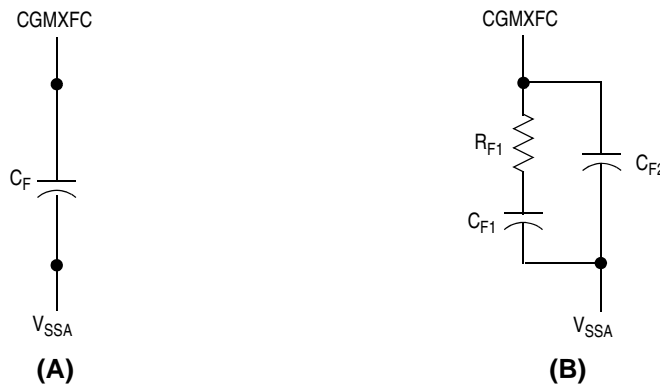

Figure 4-10. PLL Filter
Figure 4-10 shows two types of filter circuits. In low-cost applications, where stability and reaction time of the PLL are not critical, the three component filter network of Figure 4-10 (B) can be replaced by a single capacitor, C_F , shown in Figure 4-10 (A). Refer to Table 4-4 for recommended filter components at various reference frequencies. For reference frequencies between the values listed in the table, extrapolate to the nearest common capacitor value. In general, a slightly larger capacitor provides more stability at the expense of increased lock time.